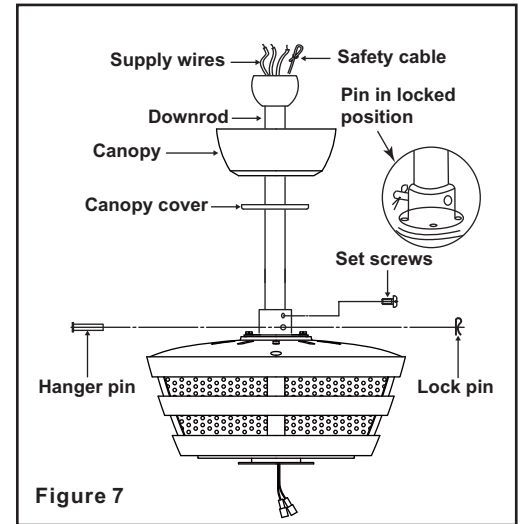

Figure 7
Step 5. Remove the hanger pin, lock pin and set screws from the top of the motor assembly. (Fig. 7)
Step 6. Route the safety cable and wires exiting from the top of the fan motor through the canopy cover and canopy and then through the ball / downrod. (Fig. 7)
Step 7. Align the holes at the bottom of the downrod with the holes in the collar on top of the motor housing (Fig. 7). Carefully insert
the hanger pin through the holes in the collar and downrod. Be careful not to jam the pin against the wiring inside the downrod. Insert the locking pin through the hole near the end of the hanger pin until it snaps into its locked position, as noted in the circle inset of Fig. 7.
Step 8. Tighten two set screws on top of the fan motor firmly. (Fig. 7)